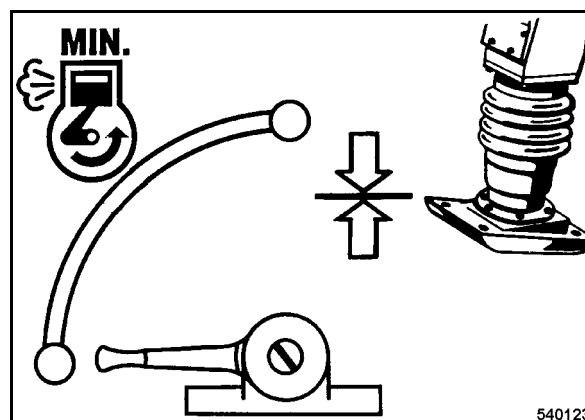

Fig. 24
- Always shift the throttle lever to position "MIN" for short work breaks (Fig. 24).